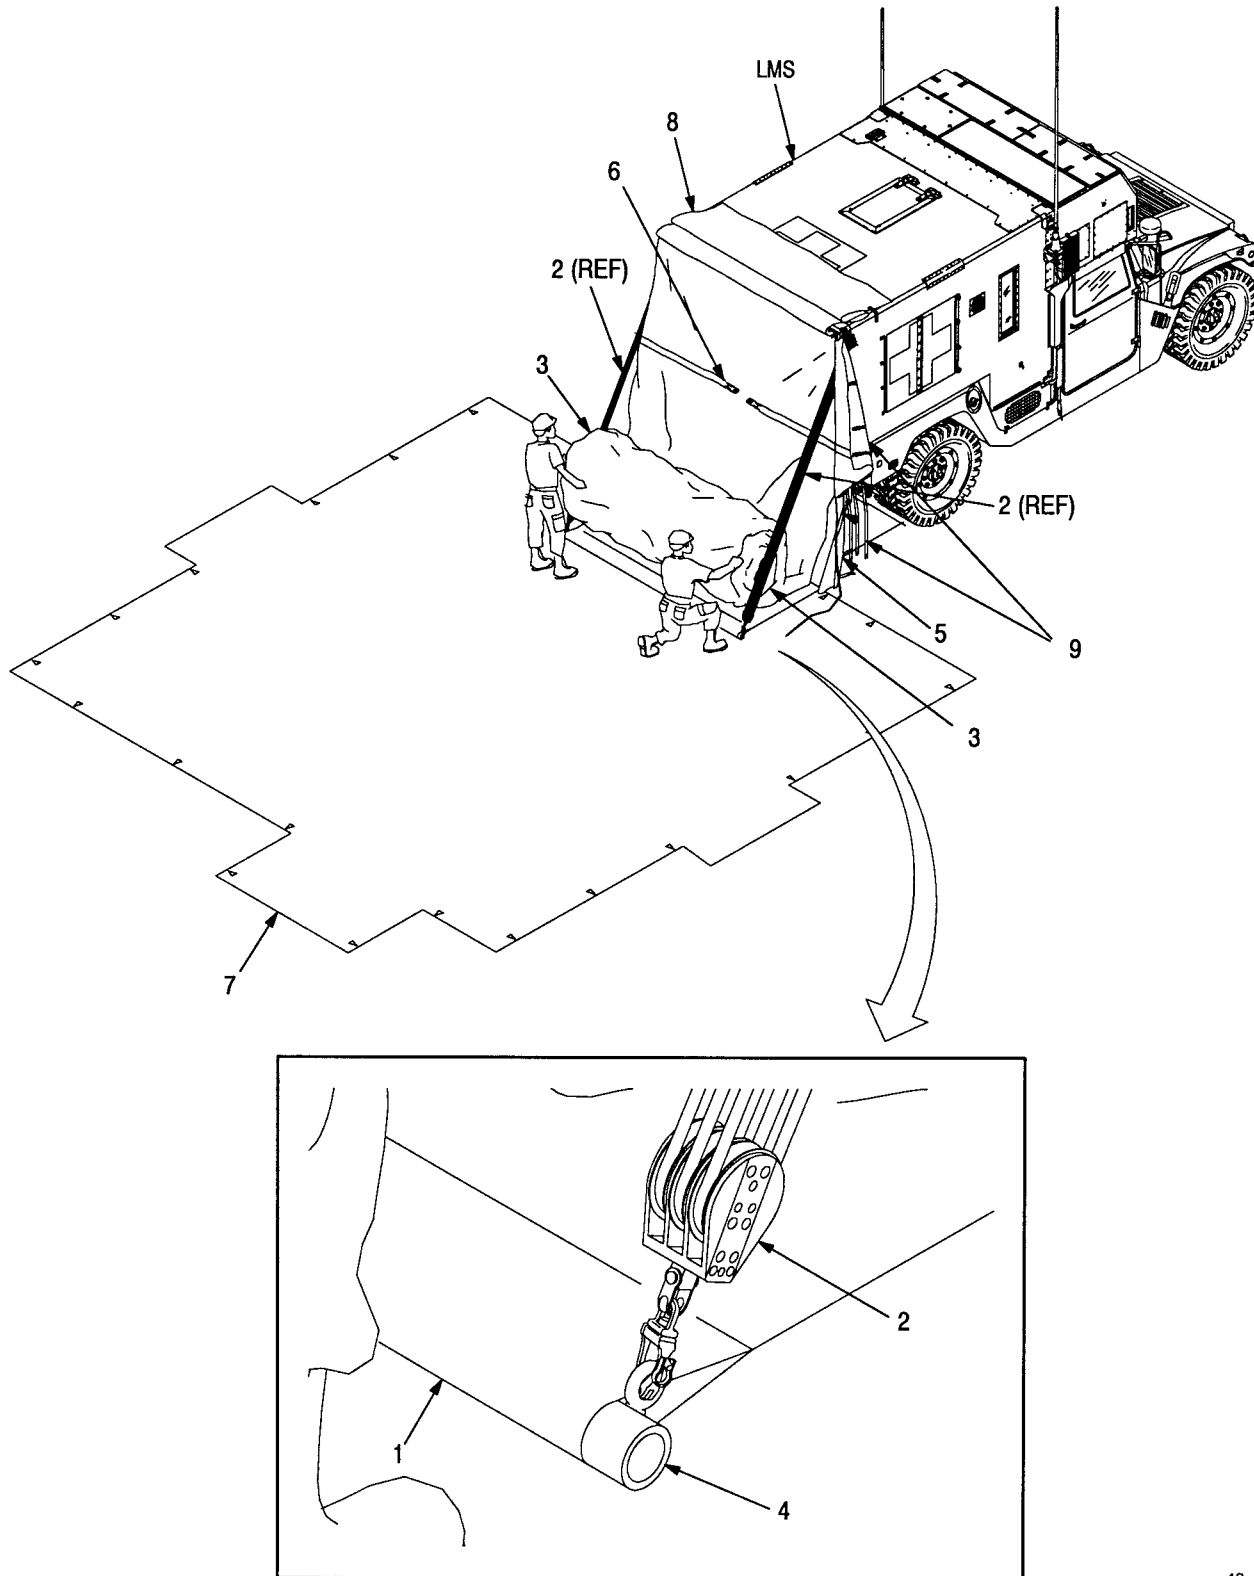

Figure 2-31. Packing the ABS
When folded, ABS should not extend beyond anchor tube (4, figure 2-31).
- (15) Pull ABS away from tailgate (5) allowing room to pull out anchor tube (4, figure 2-31) until lower transport cover (1) is fully extended. Make sure tailgate is loose, not wedged back toward LMS.
- (16) Place foot behind anchor tube (4) to hold in place, lift and pull ABS onto lower transport cover (1).
- (17) Fasten ABS retention strap (6).